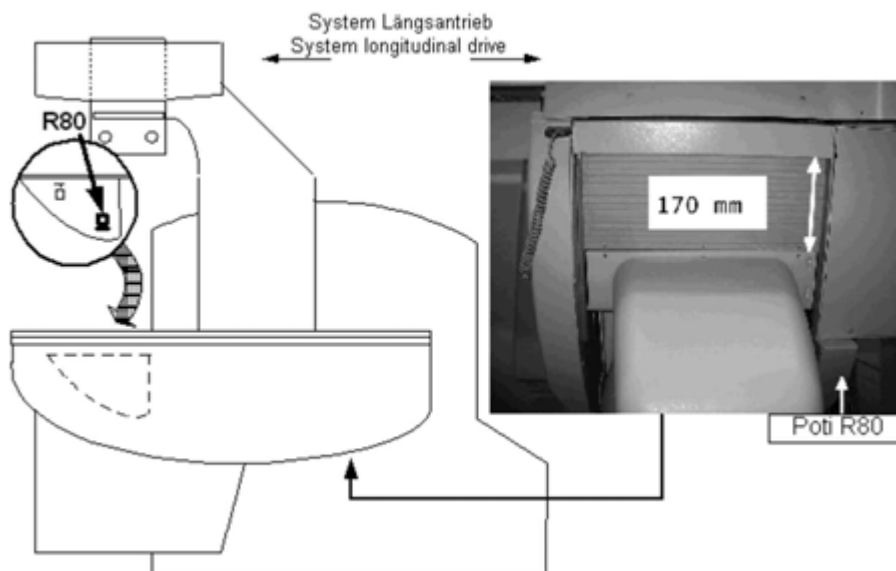

Fig. 29: Adjustment - system longitudinal
- Using the service keys, move the system longitudinal drive to the reference position (Fig. 29 / p. 50).
The reference position is 170 ± 1 mm distance between both edges (Fig. 29 / p. 50).
Access: Remove the cover at the foot end (see arrow (Fig. 29 / p. 50)).